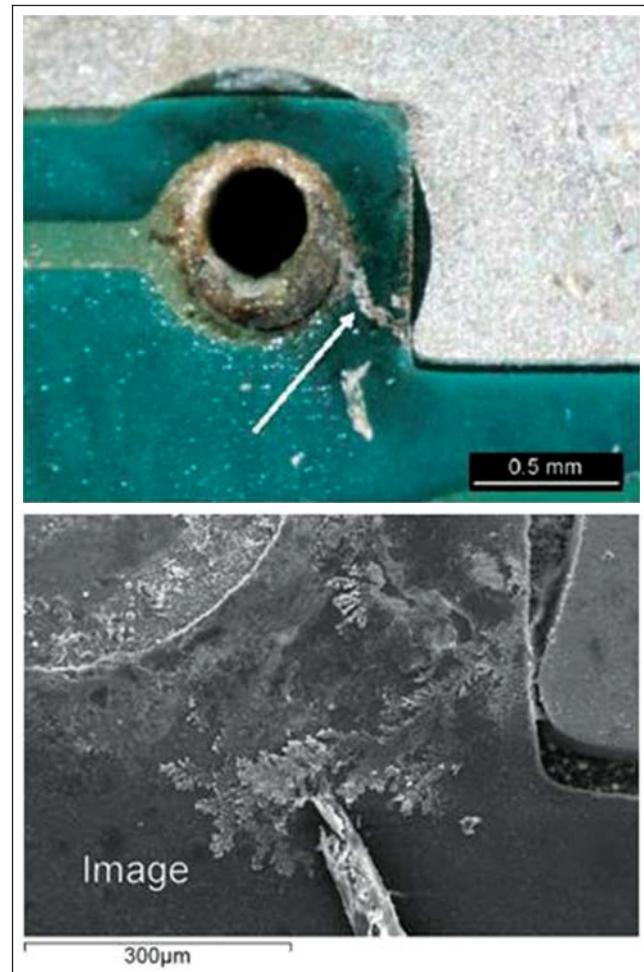

Figure 1-1 Examples of Dendritic Growth
1.2 Why Printed Board Cleanliness is Important One of the aspects of printed board assembly reliability is electrochemical reliability, which is related to the residues left on an assembly. Some residues are benign while others are harmful. Electrochemical failure mechanisms are comprised of three elements: (1) an ionic residue; (2) an electrical potential or voltage gradient; and (3) moisture or humidity. All three must be present at some minimum level (which varies) for electrochemical failures to occur. Electrochemical failures are evidenced in two primary areas: (1) unacceptable leakage currents under humid conditions, and (2) electrochemical migration (dendritic growth). An example of dendritic growth can be seen in Figure 1-1.